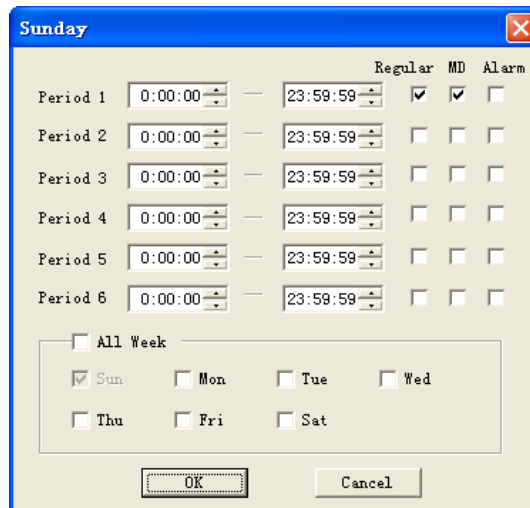

Figure 7-28
- ✧ Period: There are six periods for you to define. Click set, next to the corresponding period. See Figure 7-28. note The setup here is based on a 24 hour cycle. E.g. 00.00 to 24.00.